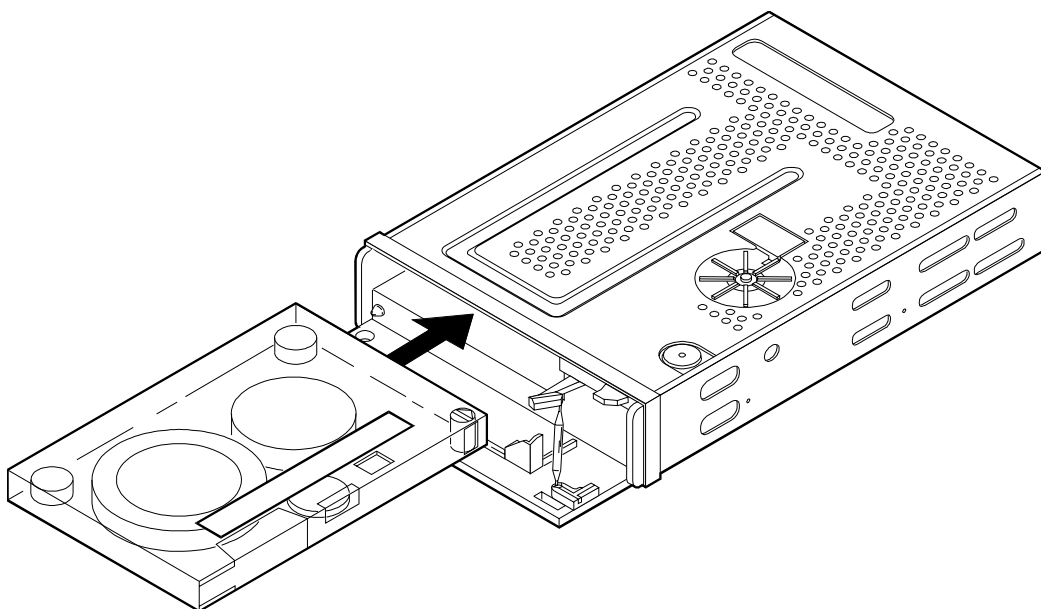

Figure 3-4. Tape Insertion with a Tape Drive
- b. Insert the tape (Figure 3-4).